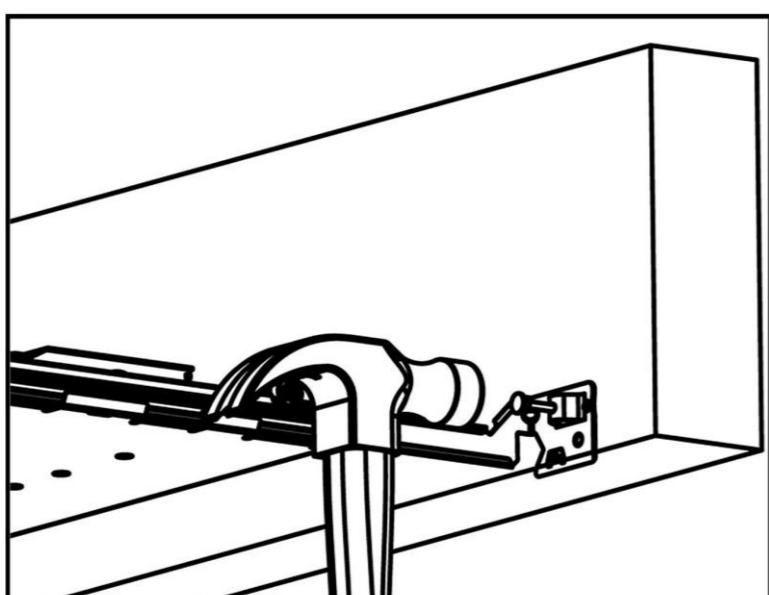

Figure 2
2. Extend the bar hangers to fit between the joists. Using the contour on the bar hanger foot, line the plate up with line bottom of the wood joist. Using a hammer, secure the frame to the wood joist with the built in real-nails®. Slide frame along bar hangers into desired location. Use the locking screws or slot to secure in place. (See Figure 2).